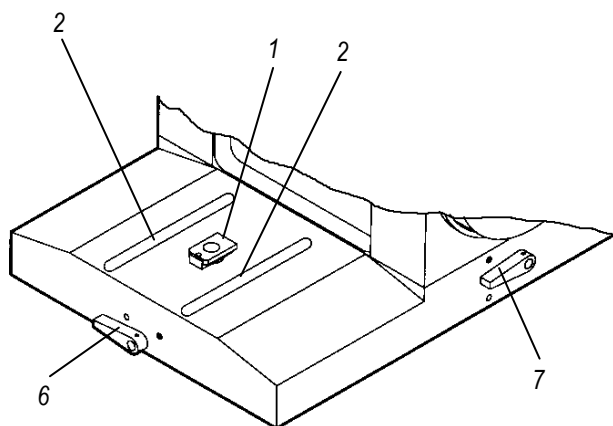
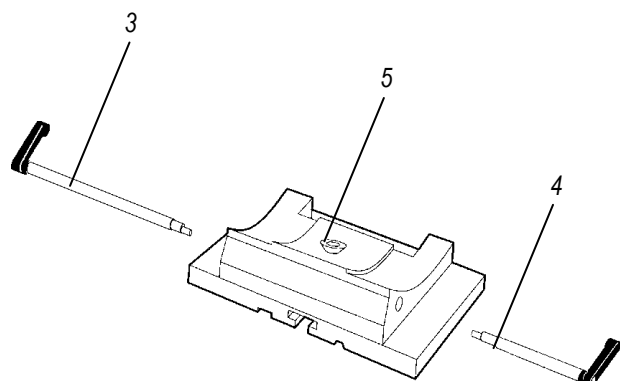

Fig. 6-1
Fig. 6-2
The base assembly should be carefully guided onto the guide rails (Fig. 6-1, item 2) and secured by moving the clamping lever (6) to the right. Verify that the blade holder base is positioned so that the thick edge is facing away from the instrument as shown in Fig. 6-2.
- T piece (1) on the microtome base plate.
- Guides (2) on the microtome base plate.
- Clamping levers (3) and (4) on the right and left side of the blade holder base.
- T piece (5) on the blade holder base.
When reassembling the blade holder base assembly (Fig. 6-2), be certain that the long clamping lever (3) is inserted into the opening on the left side of the base assembly and secured. The shorter clamping lever (4) should be inserted on the right side and secured.